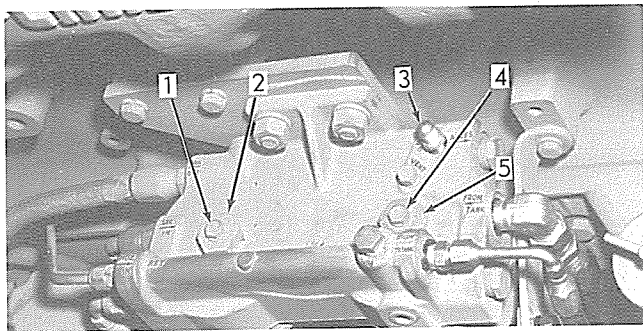

Fig. 33 — Location of Low Pressure Fuel System Vent Screws (T-71005)
1. Make certain level of fuel in fuel tank is above fuel filters, then loosen first stage fuel filter vent screw, Fig. 33 (4), and allow filter to fill with fuel by gravity. When fuel (free of bubbles) flows from around loosened vent screw, tighten vent screw securely.